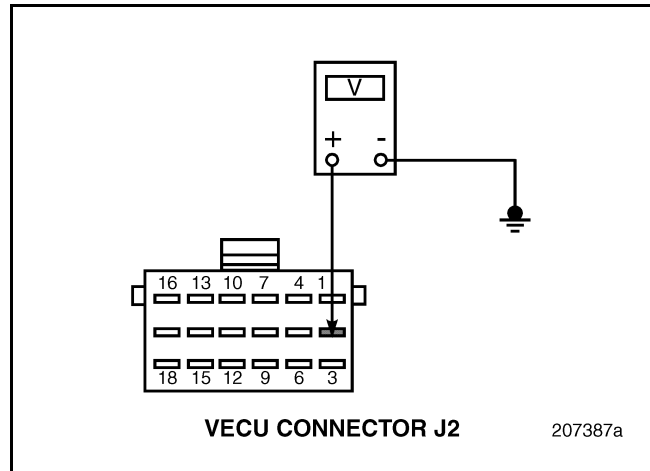

Figure 233
5. Measure the voltage between Vehicle Electronic Control Unit (VECU) harness connector J2 pin 2 and a good ground (see Figure 233).